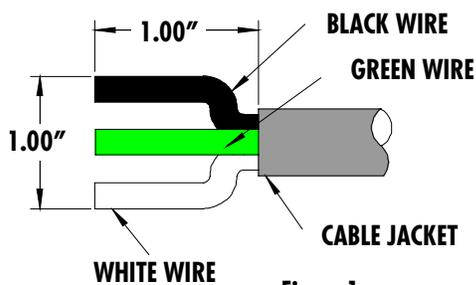

Figure 1
1. Strip cable jacket and pre-form the wires as shown in Figure 1.